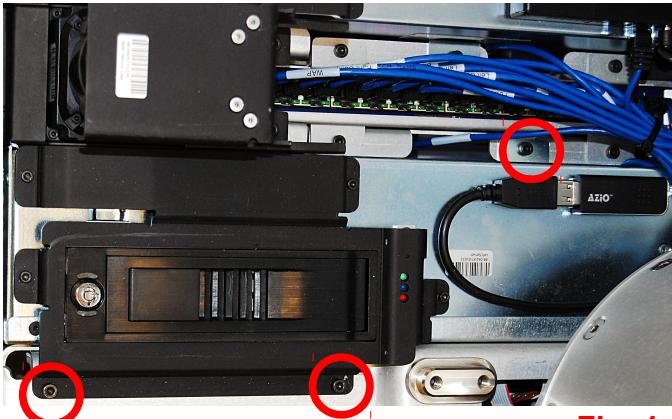

Fig. 1
2. Remove the 3 screws that secure the server to the base using a 3mm bit with the T-handle driver (Fig. 1)